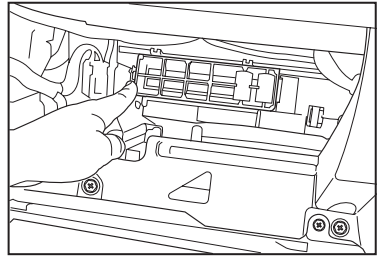

Fig. 2
3. Remove the CAF cover, then remove the filter assembly from the blower housing. (See Fig. 2)